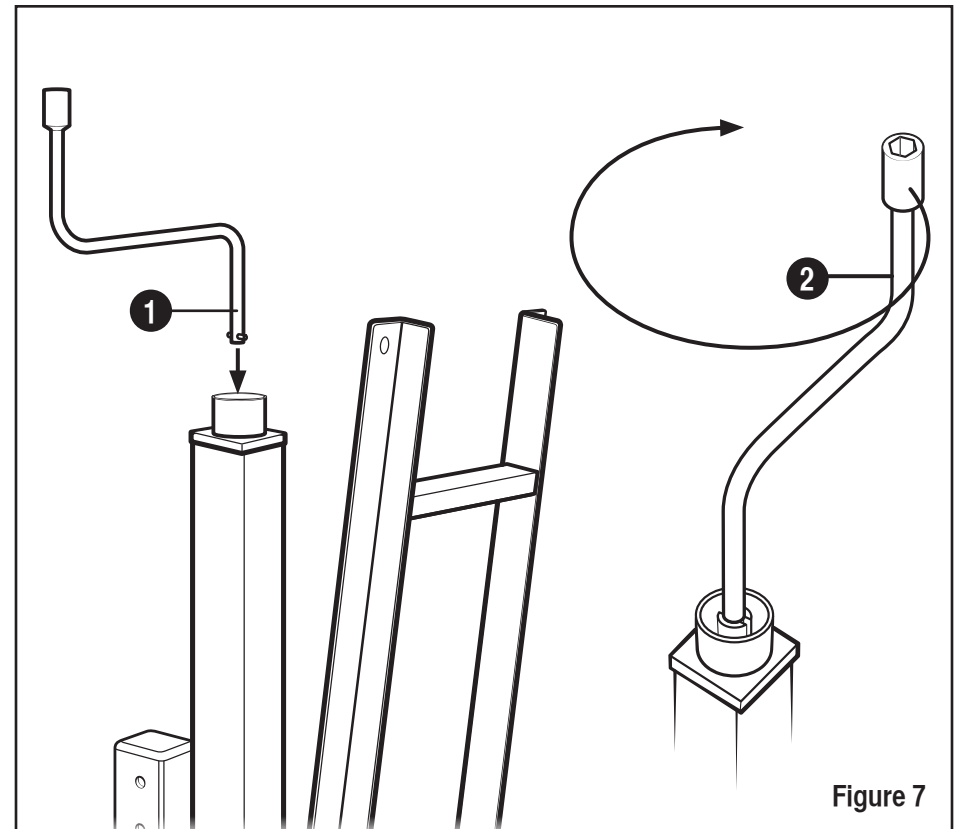

Figure 7
1. Insert the crank into the top of the lift (**Figure 7**).